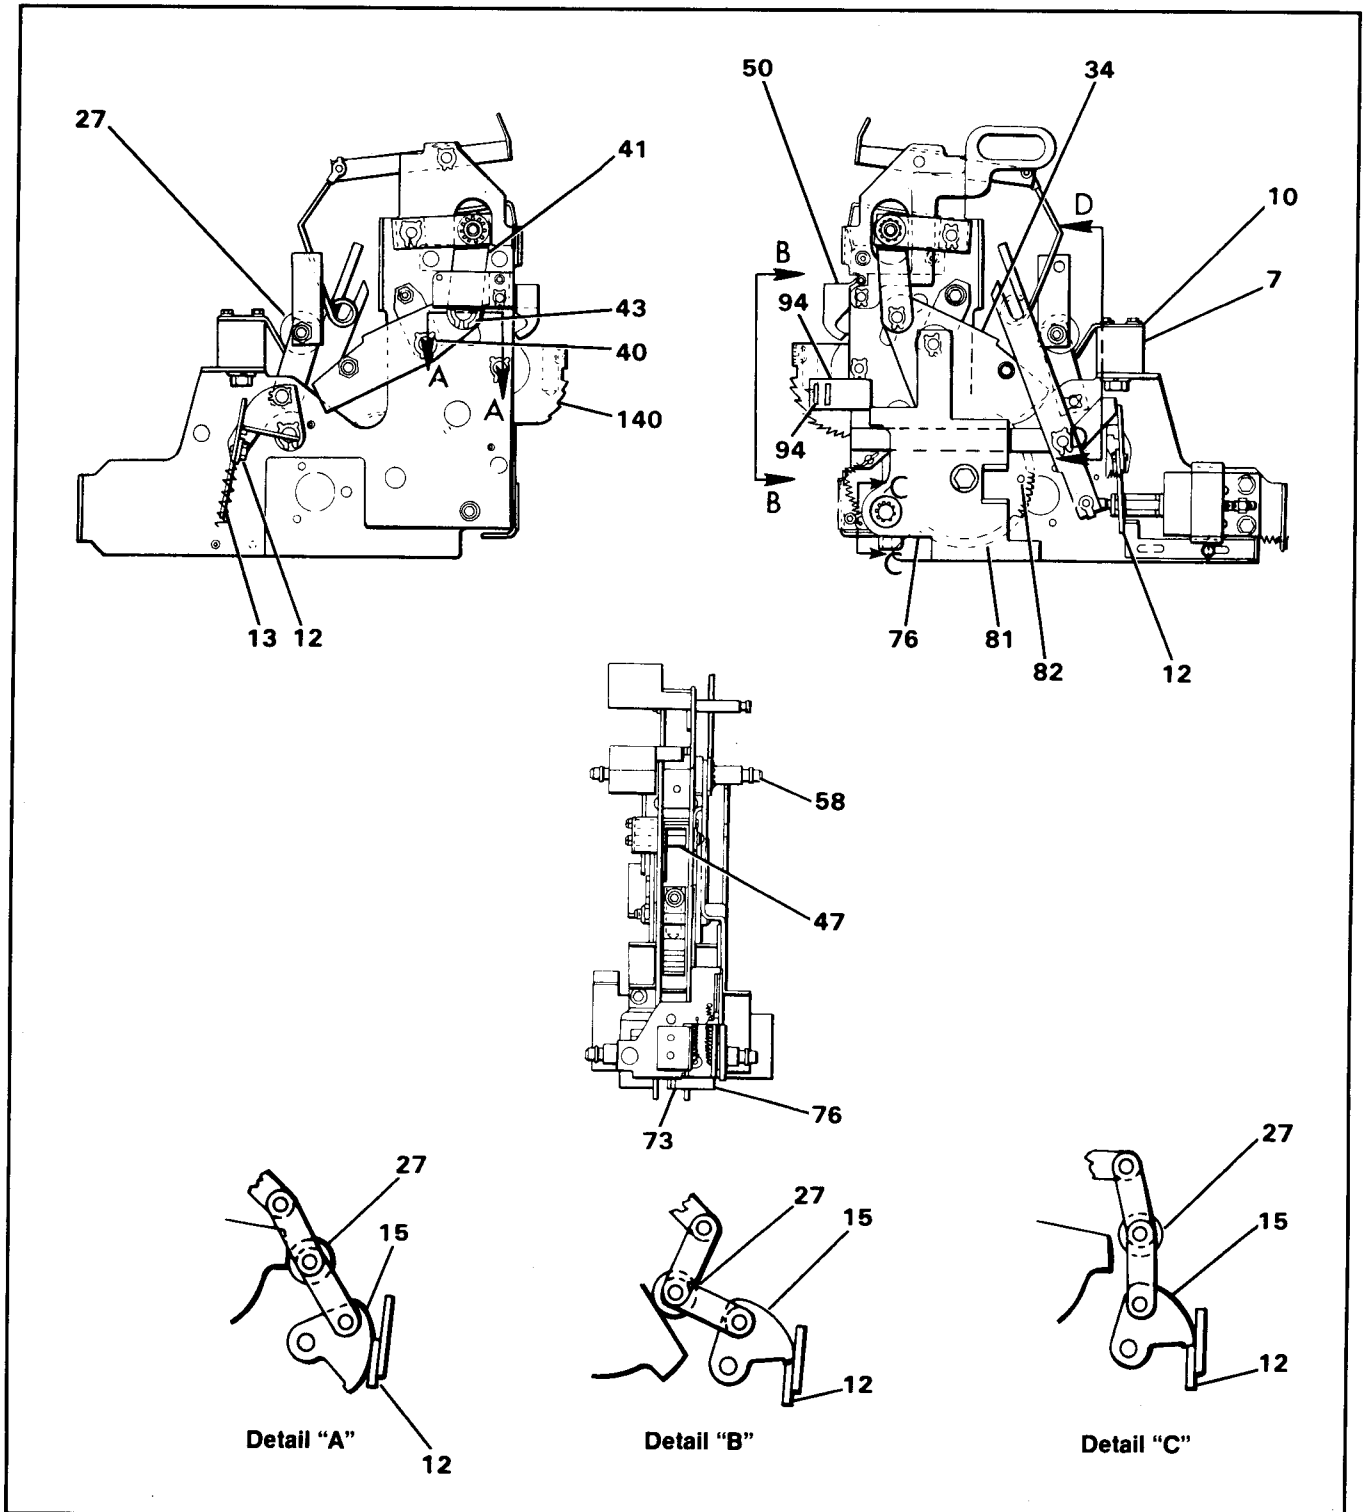

Figure 1. Circuit Breaker Operator
The breaker has a center-mounted frame so many of the latches and links are arranged in pairs. For descriptive purposes, they will be referred to as single items. Refer to **Figure 1** and **Table 1**. Detail (A) shows the position of the trip latch and toggle linkage when the circuit breaker is open and the closing springs are discharged.
the manual charging handle is replaced by a motor and gear system. Refer to **Figure 1, Table 2**. Power available to the control circuit will start the automatic charging cycle. The motor gear box pinion rotates gear (81) counterclockwise. Cam follower (82) engages an arm of wind and close cam (34), which rotates the cams in the same manner as for the manually charged circuit breaker. When the wind and close cam (34) reaches its charged position, the back of the cam engages switch lever (73), rotating the lever away from the switch operator. Gear switch lever (76) will still be holding the switch in the operate position and the motor will continue to run until the roll pins on the side of gear (81) lifts lever (76) clear. This releases the motor cut-off switch (MCO). When the MCO switch opens, the motor stops, and the closing coil circuit is set up through one side of the MCO switch.
Trip Latch Engagement (See Figure 1)